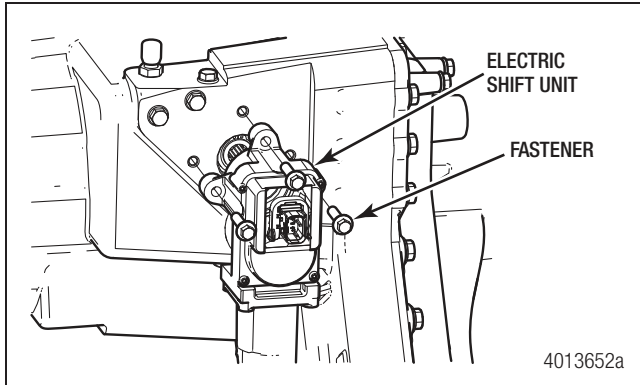

Figure 4.34
2. Disconnect the wiring harness connector from the electric shift unit. Figure 4.34.